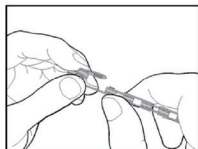

Fig.1
1. Insert the plates of the Drive Link on opposing sides of each chain end. (Fig.1) Insert and hook Drive Link pins into the opposite plate. (Fig.2)